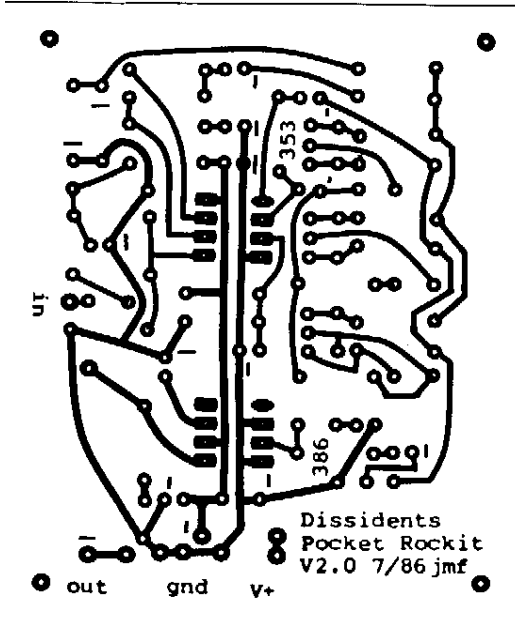
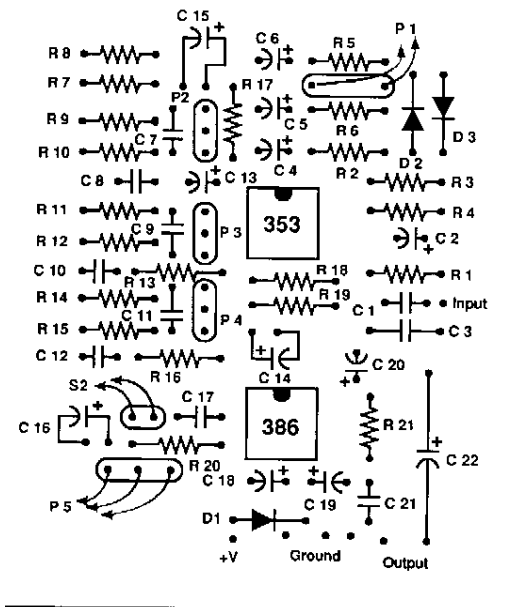

Fig. 2 Foil side of PC board
Fig. 3 Stuffing Guide
**Fig. 2** shows the PC board (foil side) artwork; **Fig. 3** shows the component layout. When assembling, make sure that you obey the polarity markings for the caps and diodes. Also make sure that the